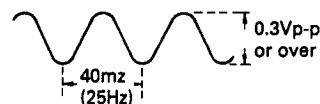

Figure 48.
2. Monitoring AN pin ④ with an oscilloscope (internal trigger), check that the requirements given in Figure 48 are met.